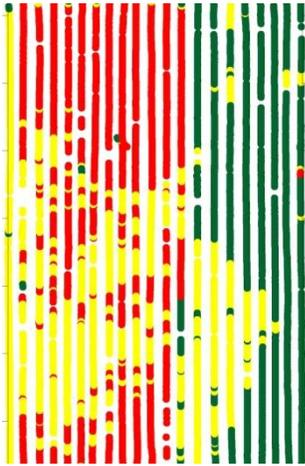

Figure 2. Data shift due to adjustment of OpticMapper during mapping
b) Adjustment of OpticMapper during mapping—changing depth or down-pressure which causes sensing depth to change (Figure 2). If in-field adjustments are required,